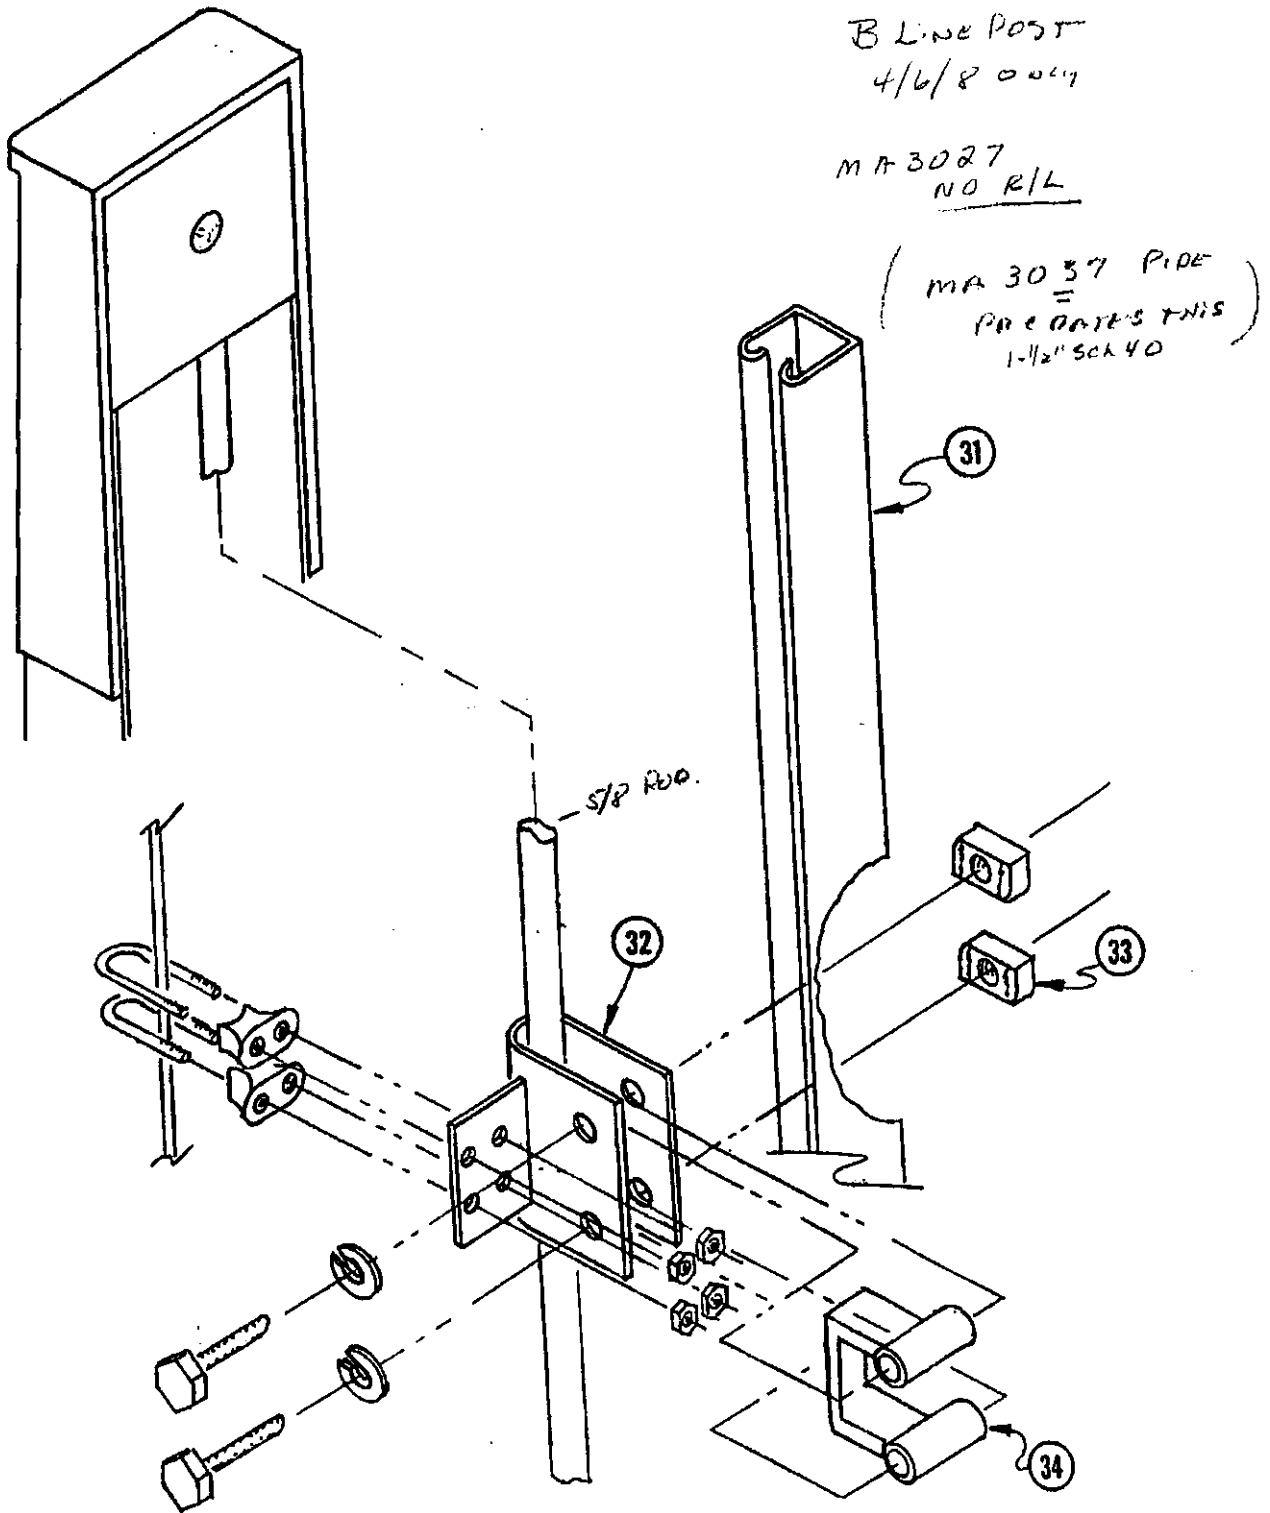

FIGURE 10
11. (10, 12, 15) Install a guide bracket (29) to each cable bracket (20), capturing the cable support (9). Attach each with two 1/2 x 1 1/2 inch bolts, nuts, and lockwashers.
12. (10, 12, 15) Loosen the cable support (9) attach bolts and slide the cable supports out equidistance until the cable brackets (20) are against the dock bracket angle (26).
13. (10, 12, 15) Tighten the cable support (9) attach bolts, making certain the cable supports are still vertical and parallel.
14. (10, 12, 15) Slide the brackets (20) down the cables (16) until they are against the stops on cable supports (9).
15. (4, 6, 8, 8-2T) Reinstall the strut (31) back onto dock brackets (27) with opening of strut facing to the front of the slip on the left side and to the rear of the slip on the right side.
16. (4, 6, 8, 8-2T) (See Figure 10) Using two cable clamps (28) for each cable bracket (32), place cable bracket around slide rod with flag away from the strut (31) and attach to cable. Do not tighten. Note that the left side brackets attach to
} see Figure 10